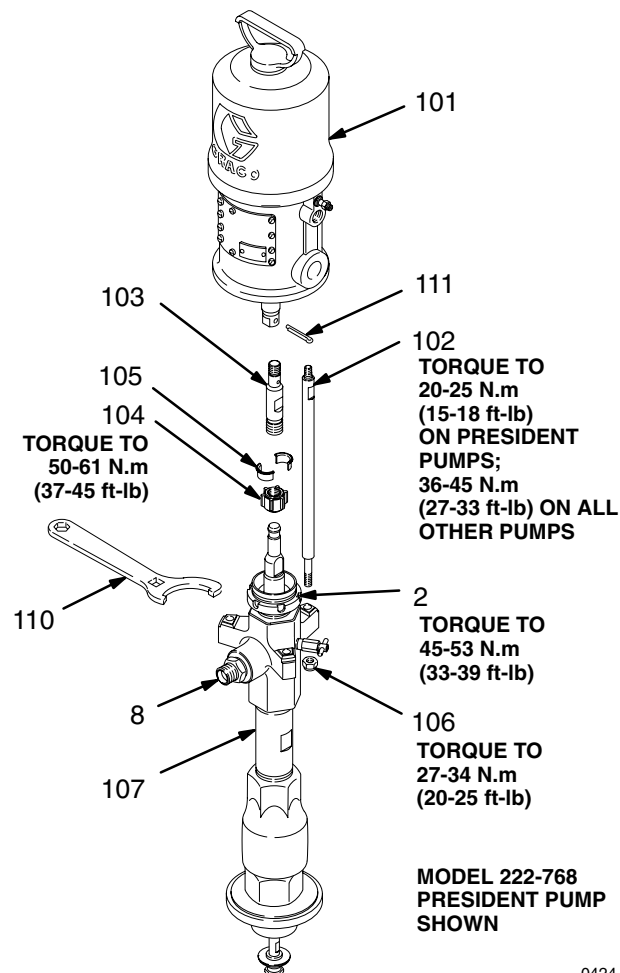

Fig 3
2. Disconnect the air hose. Hold the fluid outlet fitting (8) with a wrench to keep it from being loosened while you disconnect the fluid hose. Remove the pump from its mounting. Note the relative position of the pump's fluid outlet to the air motor's air inlet.
3. Using an adjustable wrench, unscrew the coupling nut (104) from the connecting rod (103). Remove the coupling collars (105). See Fig 3.
4. Hold the tie rod flats with a wrench to keep them from turning. Use the wrench provided with the pump (or a 17 mm box or socket wrench) to unscrew the tie rod locknuts (106) from the tie rods (102). Carefully pull the displacement pump (107) off the air motor (101).
1. Orient the pump's fluid outlet to the air motor's air inlet as was noted in step 2 under **Disconnecting the Displacement Pump**. Position the displacement pump (107) on the tie rods (102). See Fig 3.